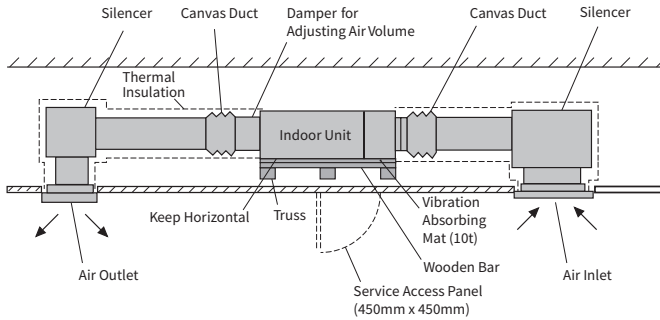

Fig.4.15 Duct Connection
- (1) The supply duct should be connected with the indoor unit through canvas ducts, in order to avoid abnormal sound vibration (Refer to Fig.4.15). The unit is equipped with a pre-drilled duct flange for the supply duct connection.
- (2) Attach the vibration proof rubber to Sling Bolt in order to avoid abnormal sound vibration.
- (3) Duct material should be non-flammable material.
(4) Perform the heat insulation work over the duct for dew protection.